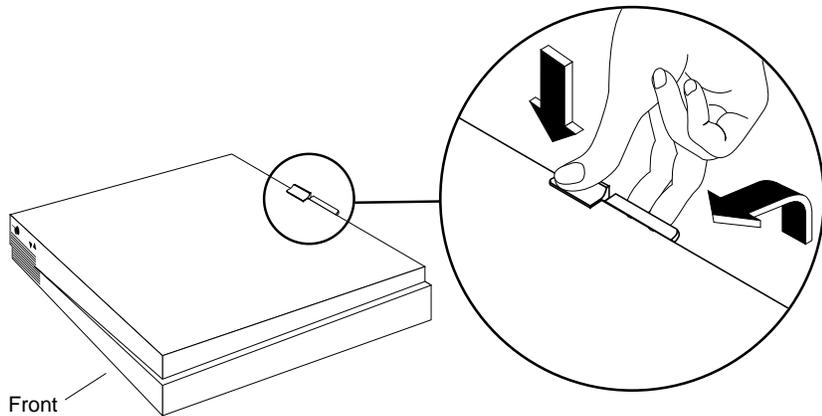

Figure 1-5 Removing the Top Cover From the Indy Workstation
3. Facing the front of the Indy workstation, place your right thumb on the small lip at the back of the cover, and your second and third fingers under the finger ledge, as shown in Figure 1-5.